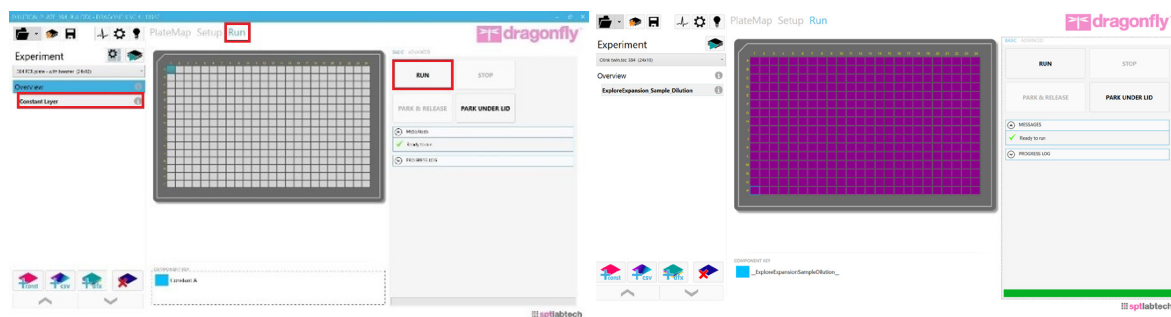

Figure 4. Run tab and Run button (left). Filled Plate (right).
5. Select the *Run* tab in the *Constant layer* view of the software (*Figure 4*), then click *RUN* to start the program.